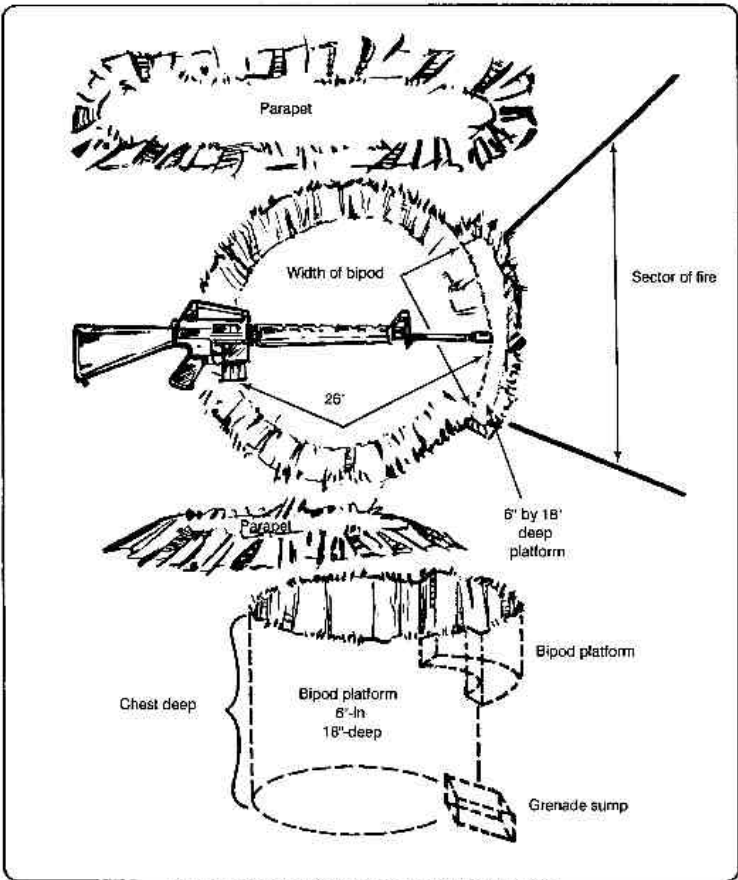

Figure 3-8. Construction of a one-man fighting position.
(1) When the weapon is fired from an improved position, the muzzle end of the launcher must extend 15 centimeters (6 inches) beyond the front of the hole. The rear of the launcher must extend out over the rear of the hole. As the missile leaves the launcher, the unfolding stabilizing fins require at least 15 centimeters (6 inches) of clearance above ground. The position should be protected to the front by a parapet or by natural or man-made cover.
(2) The ground in front of and behind the position should be free of rocks, sand, and debris to prevent a dust cloud (caused by firing) from obscuring the gunner's vision, marking the location to enemy observers. When the Dragon is to fire in only one direction, a one-man fighting position is best. (See Figures 3-8 and 3-9.)